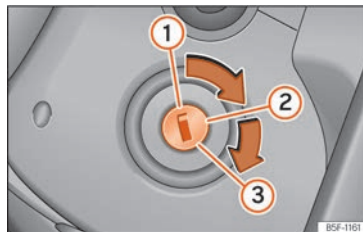

Fig. 84 Ignition lock
- Turn the key to position **>>> Fig. 84 ②**.
- Keep turning the key to position **>>> Fig. 84 ③** without pressing the accelerator.
- Once the engine starts, release the key. When it is released, the key returns to position **②**.
- *Vehicles with ignition locks:* Turn the key to position >>> Fig. 84 .
- *Vehicles with start buttons:* Briefly press the start button >>> Fig. 84.